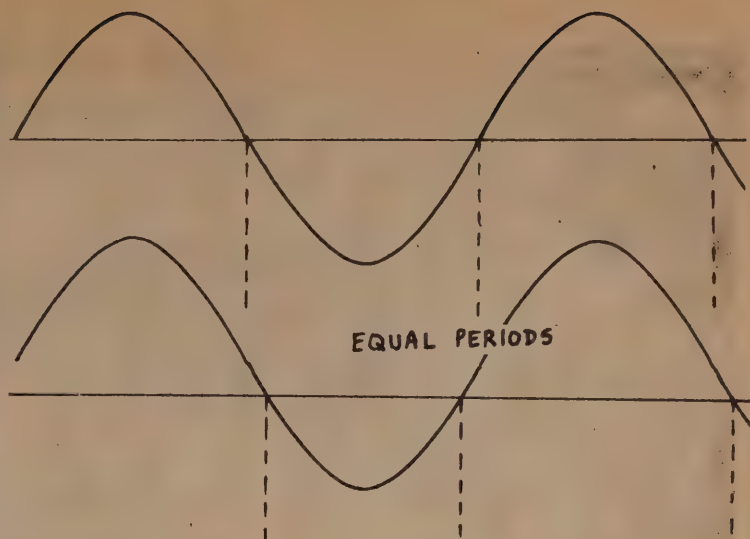

Fig.2
**RESOLUTION-** Let us look into the question of resolution of an SSTV picture. At any given period of time during the picture, the frequency determines the level of grey. Thus the period of 0.5 of a cycle is the smallest "information packet" which is being transmitted, and one can only make use of this half-cycle if the waveform is symmetrical about the axis as can be seen in Fig. 2. When the waveform is asymmetric with respect to the axis then the two periods between the crossing points are different and would be interpreted as two different shades of grey. Now for a black signal:-  $f=1500\text{Hz}$ ,  $t=666\mu\text{s}$ ,  $1/2t=333\mu\text{s}$ , Line time= $60\text{ms}$ . less  $5\text{ms}$  for sync gives  $55\text{ms}$ , Hence the possible elements per line =  $55000/333 = 165$ . For a white signal:-  $f=2300\text{Hz}$ ,  $t=434\mu\text{s}$ ,  $1/2t=217\mu\text{s}$ , Hence possible white elements per line =  $55000/217 = 253$ , Average no. of elements per line is 209. For this we can see that the usual  $128 \times 128$  pixel scan converter is not using the full potential of the system. In fact my own experiments have indicated that a SFP7 monitor is capable of better resolution than a digital system providing that the CRT has a sufficiently small spot size on the screen. I wonder if anyone would like to design a scan converter with a  $128 \times 256$  memory which would give better resolution in the horizontal direction.